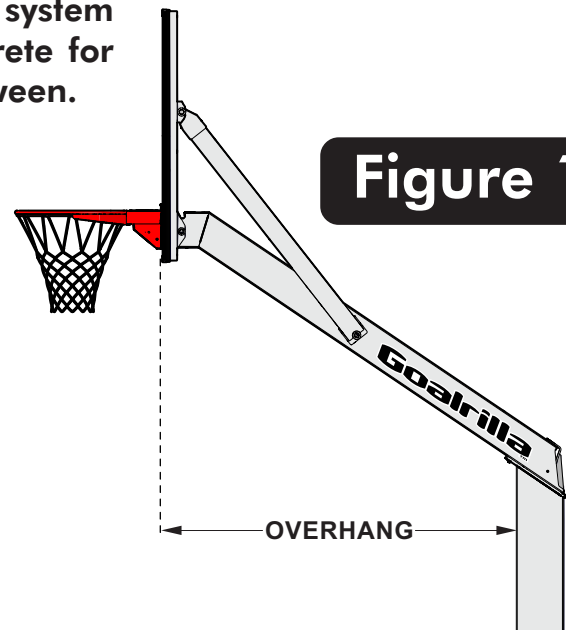

Figure 1
1. Determine the desired location of the backboard over the playing court. From that location, use the overhang distance of 60" (5ft) to determine the correct location of the anchor system. See **Figure 1**.